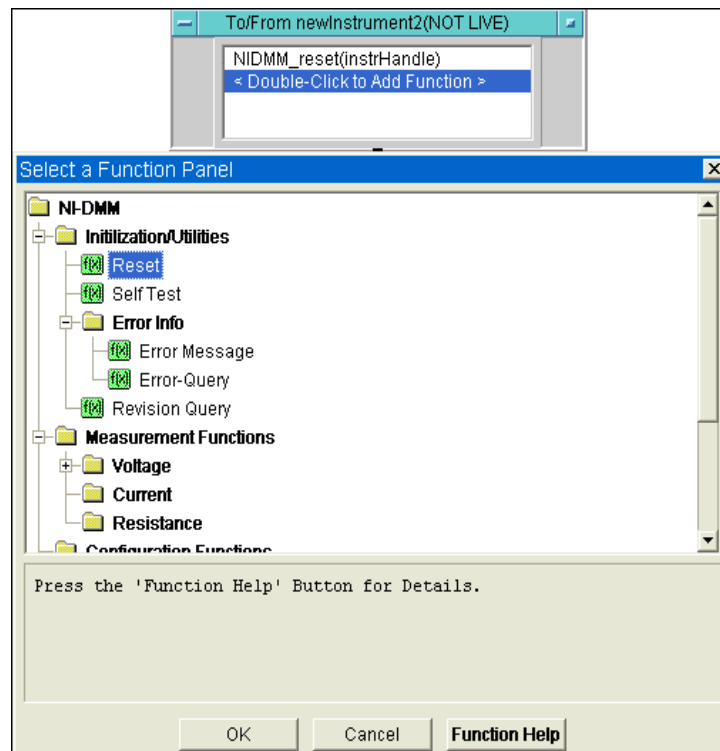

Figure 3-9 Selection of the Function Panel for NIDMM
- 7 Click NI-DMM Driver under Create I/O Object; Place the object in Main; then double-click on its transaction bar to Select the Function Panel; see Figure 3-9.